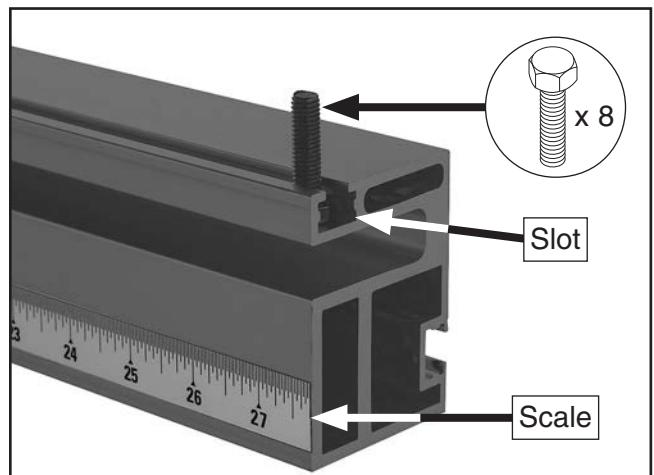

Figure 21. Hex bolt positioned in front fence rail slot.
- Orient fence rail so scale faces you. Slide (8) M8-1.25 x 30 hex bolts into open slot (see **Figure 21**).